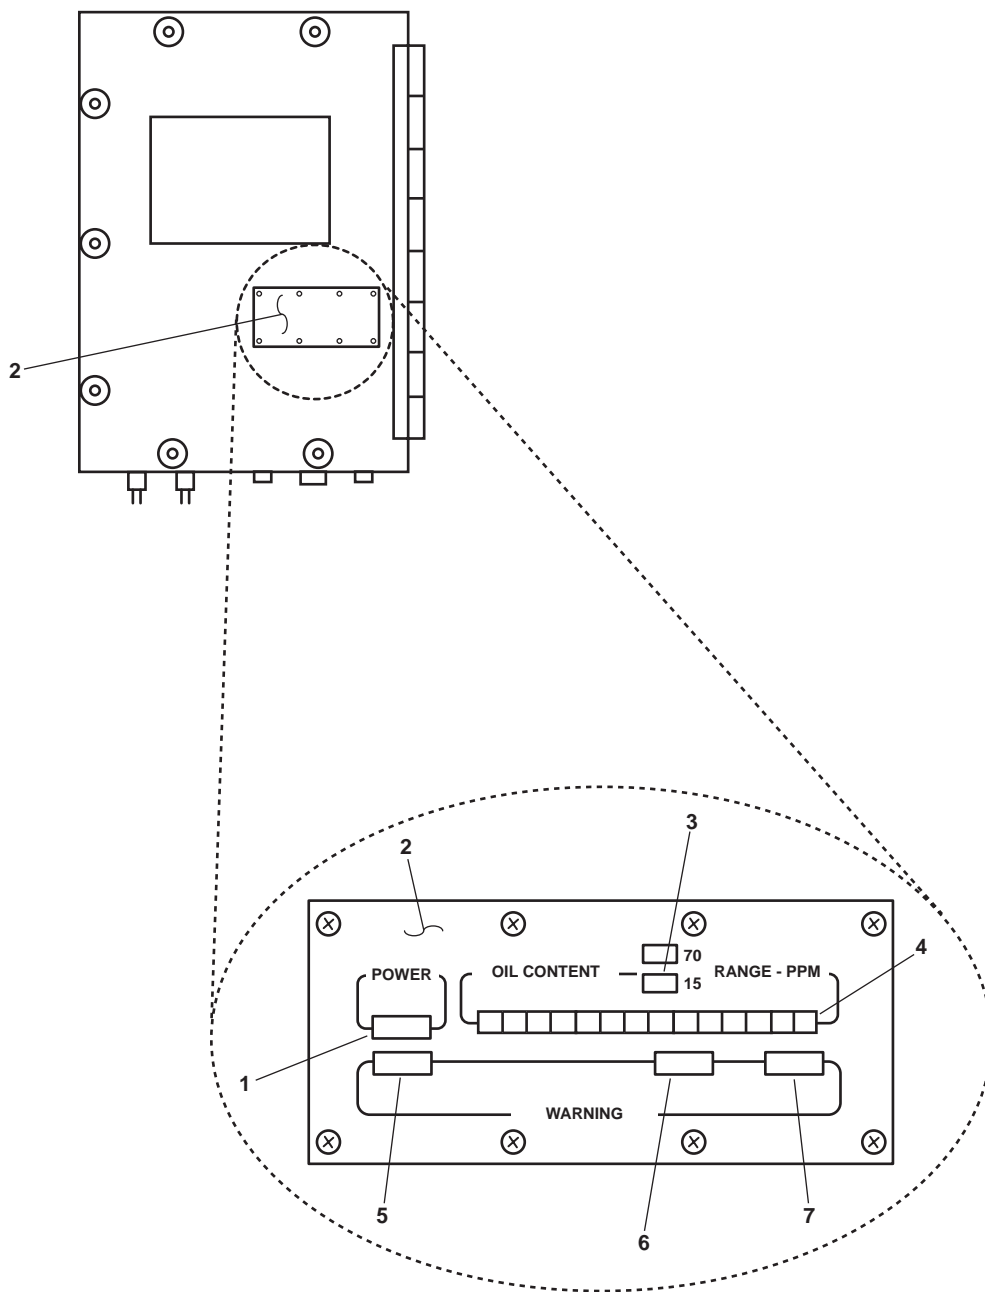

Figure 16. Sampling/Sensor Assembly Indicators
- a. The POWER indicator A1DS1 (figure 16, item 1) on the OCM display (figure 16, item 2) is illuminated.
- b. The RANGE-PPM indicator (figure 16, item 3) on the OCM display (figure 16, item 2) indicates the PPM Selected.
- c. The sampling/sensor assembly Light Emitting Diodes (LEDs) (figure 16, item 4) on the OCM display (figure 16, item 2) are illuminated.
- d. OCM WARNING 1 (figure 16, item 5) on the OCM display (figure 16, item 2) is not illuminated.
- e. OCM WARNING 2 (figure 16, item 6) on the OCM display (figure 16, item 2) is not illuminated.
- f. OCM WARNING 3 (figure 16, item 7) on the OCM display (figure 16, item 2) is not illuminated.